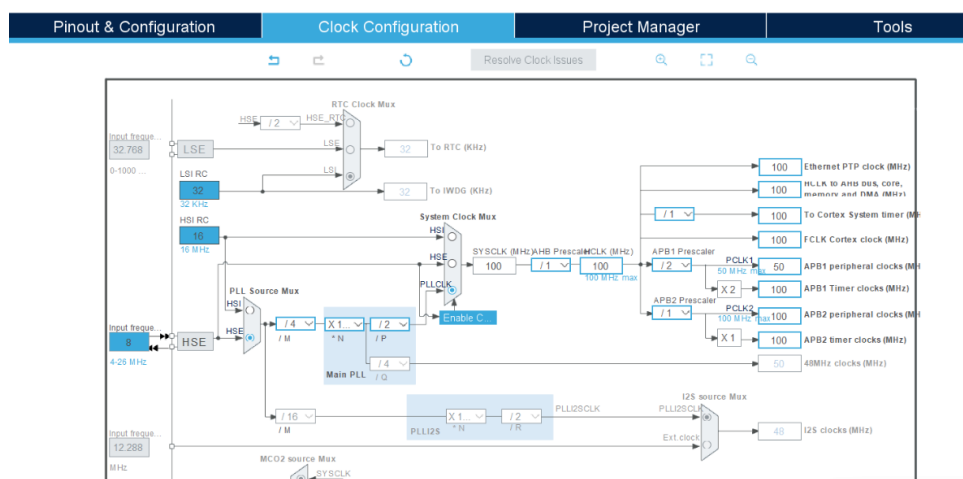

Figure 1.9: Clock Configuration
- Clock configuration window is shown in Figure 1.9